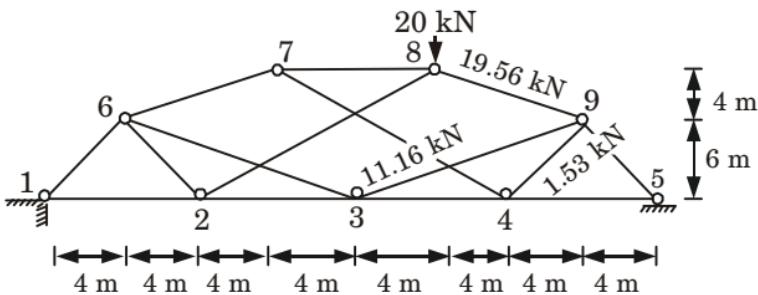

Fig. 2.13.1.
**Que 2.13.** Determine the forces produced by the applied loads in members 49, 39, and 89 of the complex truss shown in Fig. 2.13.1.